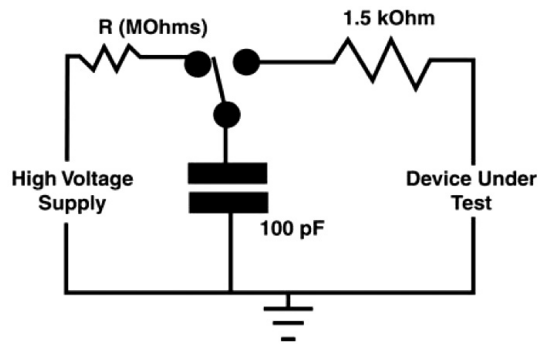

Figure 3. Typical Human Body Model (HBM) circuit.
- Testing performed using Human Body Model (HBM) (see Figure 3)